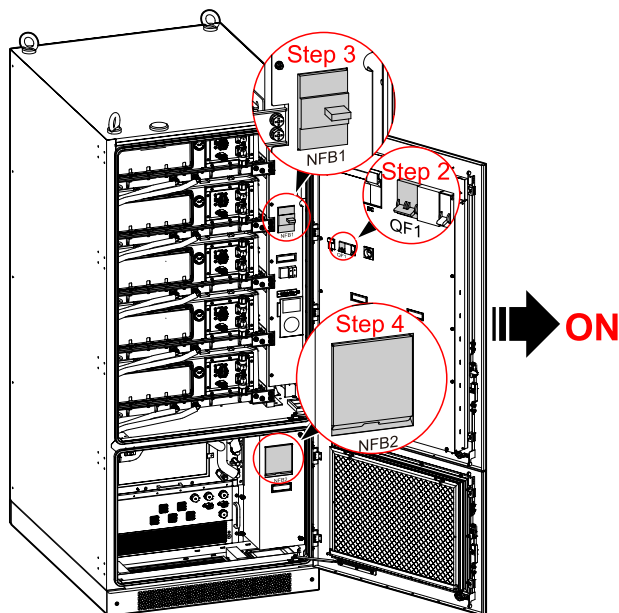

Figure6-4 Close the corresponding circuit breakers
Step 2 Power on the external power supply, close the external power supply breaker QF1, as shown in Figure6-4.
Step 3 Close DC breaker NFB1 (as shown in Figure6-4), DC side is connected.
Step 4 Close the AC breaker NFB2 (as shown in Figure6-4), the AC side is connected.